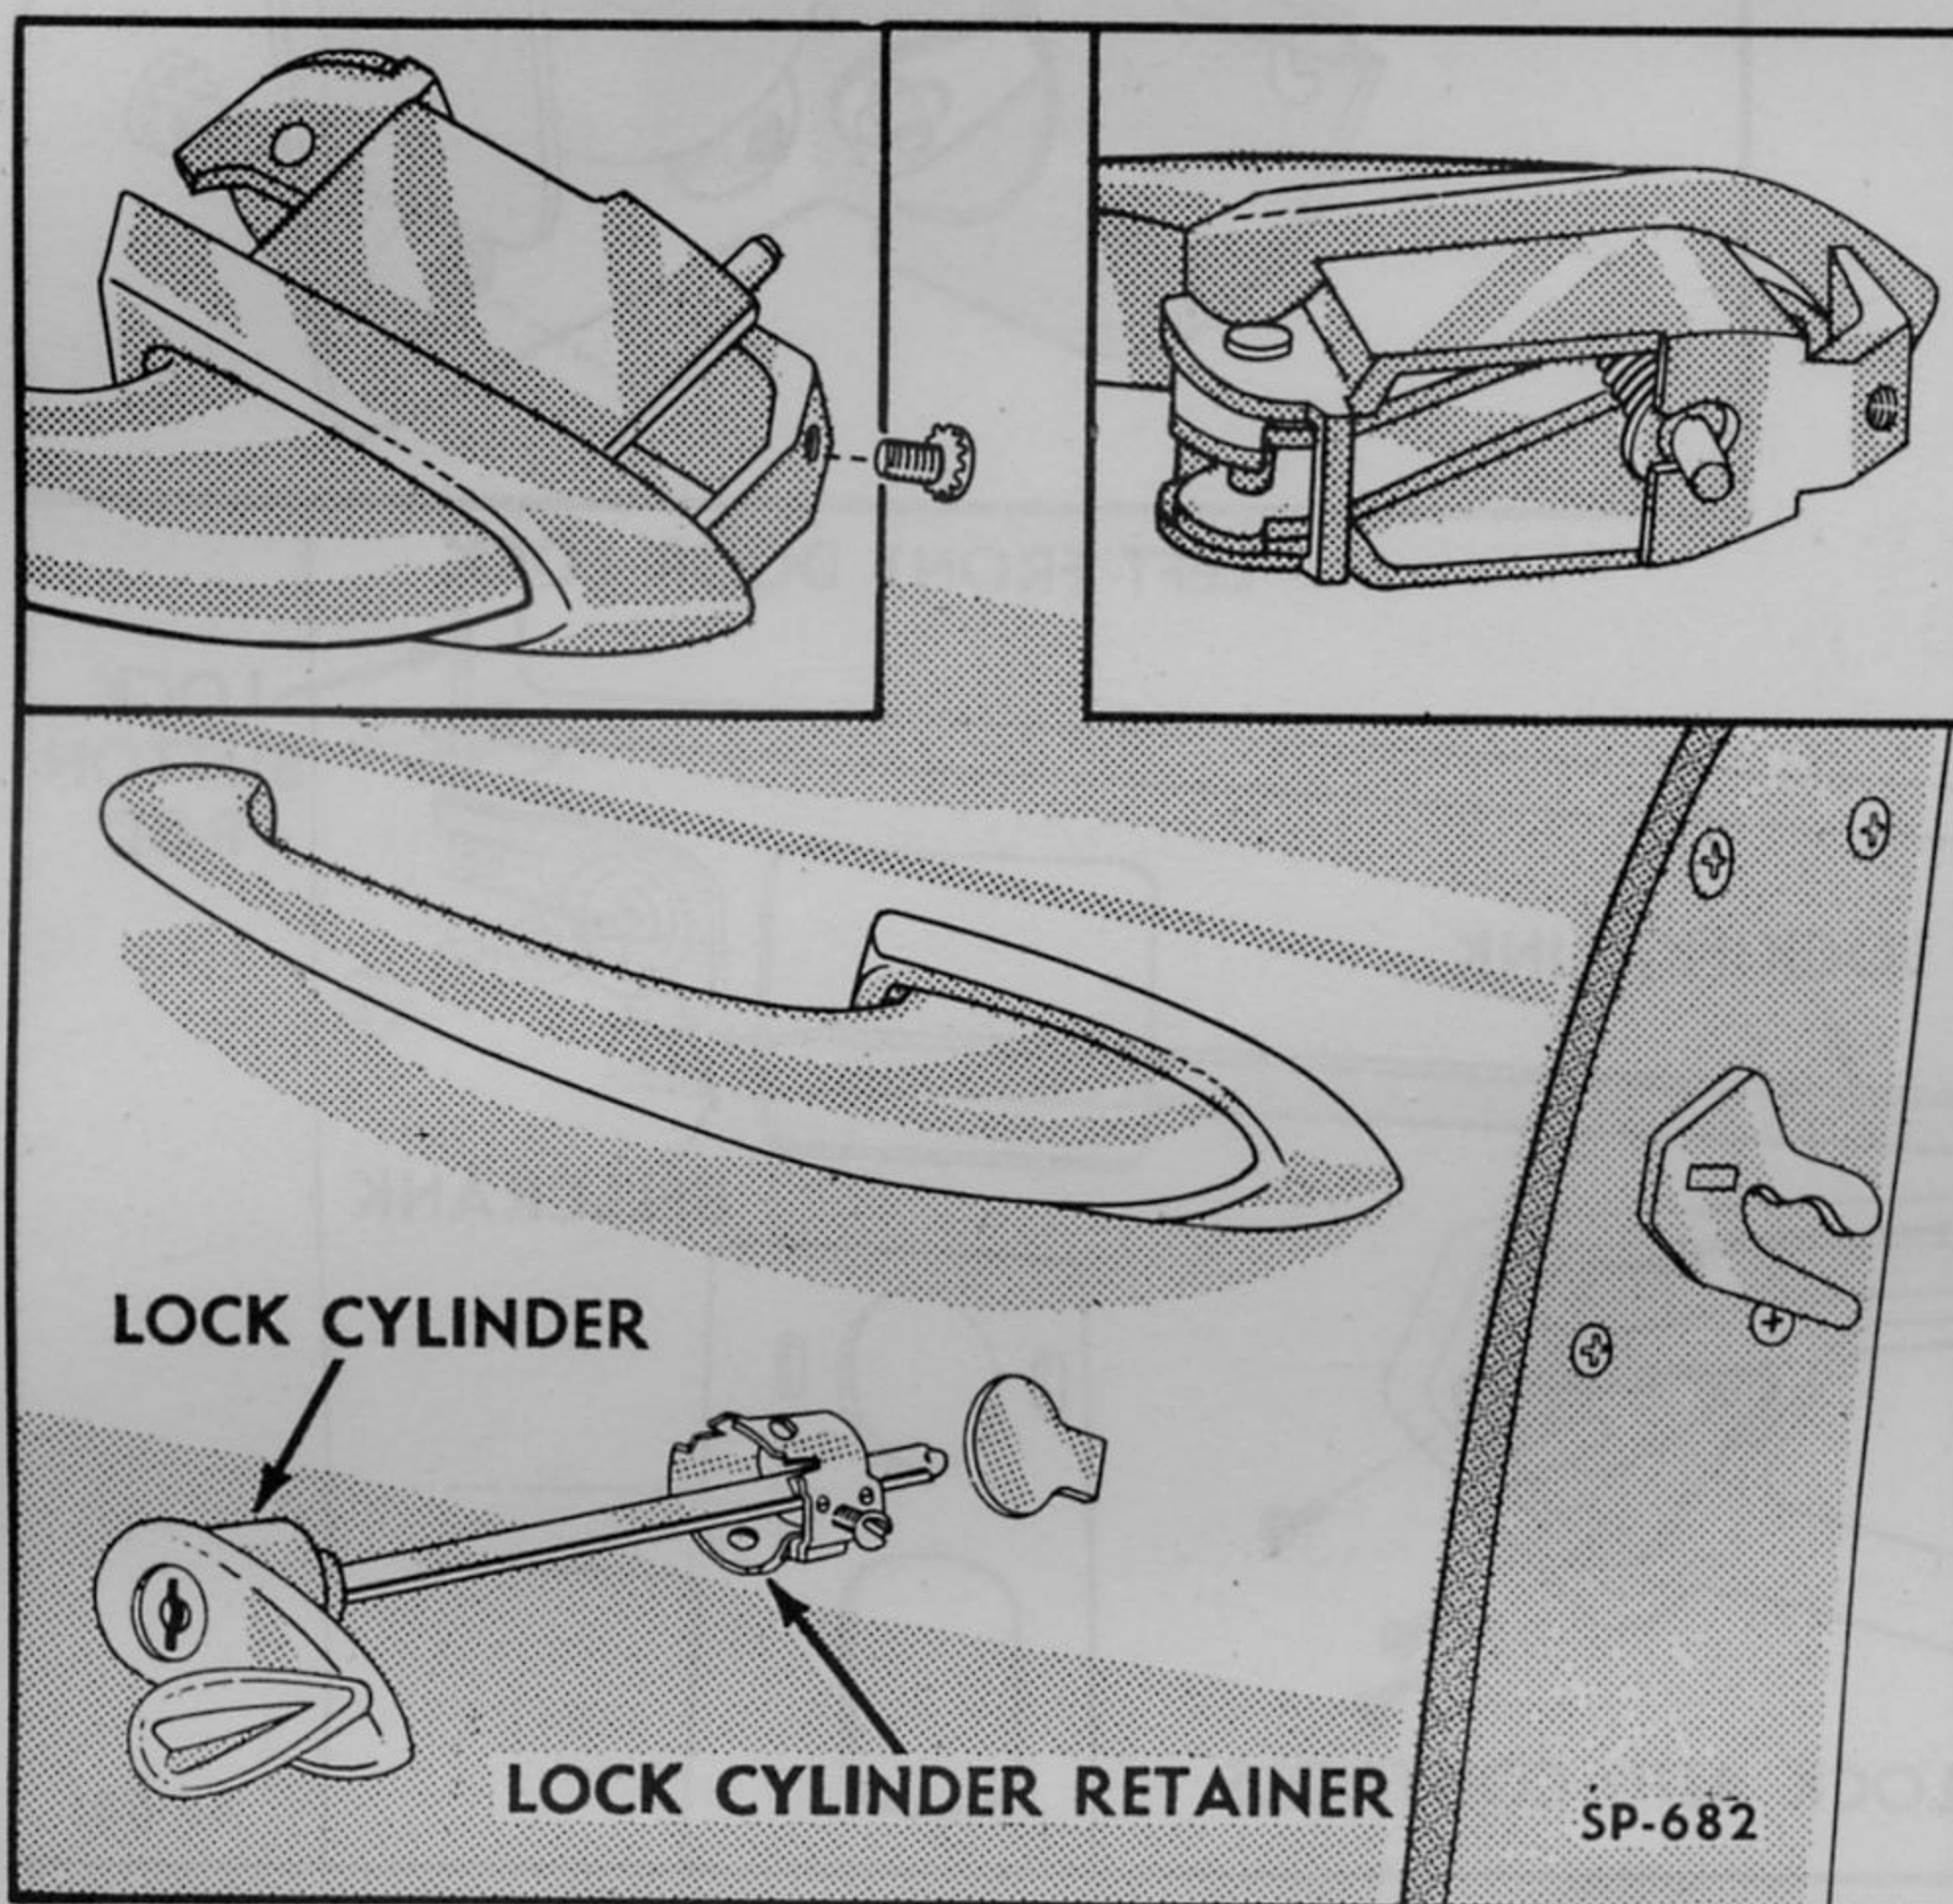

Fig. 350—Door Lock and Handle—Kaiser
**1. Description and Construction.** Each door lock is operated by an outside pull type handle (Fig. 350) and also by an inside turn handle and remote control assembly which is connected to the lock by a link. The inside and outside handles operate independently of each other.
A key operated plate tumbler lock is mounted in each front door below the door handle as shown in Fig. 350. A set screw fastens the lock into a spring
On the front doors it will be necessary to move the window channel sufficiently to permit removal of the door lock. The door lock cylinder on the front doors is held in place with a set screw (Fig. 350). To remove the lock loosen the set screw, which is accessible through a hole in the door inner panel, and lift out the lock. Reverse the procedure to install the door locks and controls.